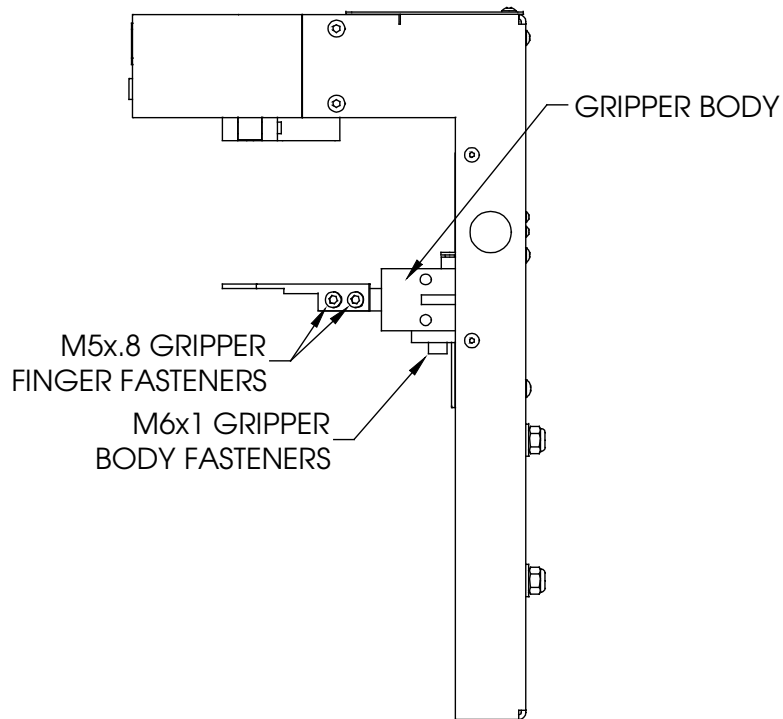

Figure 16. Gripper Finger Adjustment
6. Loosen but do not remove the (4) four M5X.8 Gripper Finger Fasteners and the (2) two M6x1 Gipper Body Fasteners as shown in Figure 16. Loosen the fasteners only enough to allow movement of the Gripper Fingers and Gripper Body.